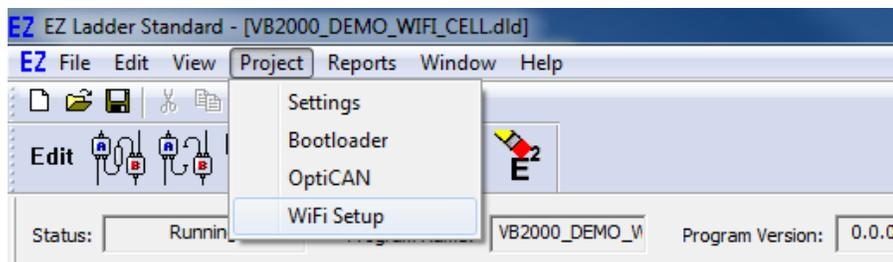

Figure 2-16 - Access WiFi Setup
4. From the menu at the top, select **PROJECT** then select **WiFi SETUP**. Refer to Figure 2-16.